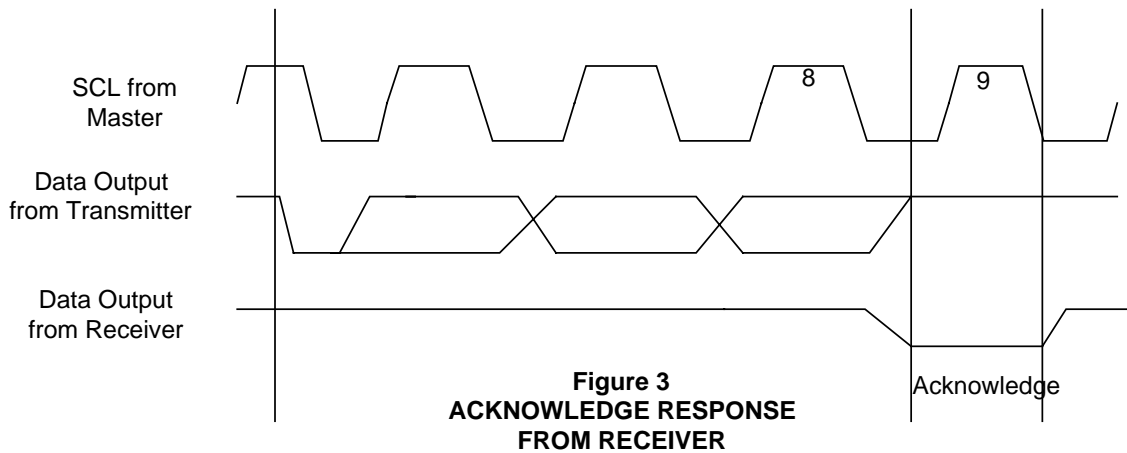

Figure 3
**SPD ACKNOWLEDGE** - Acknowledge is a software convention used to indicate successful data transfers. The transmitting device, either master or slave, will release the bus after transmitting eight bits of data (Figure 3).